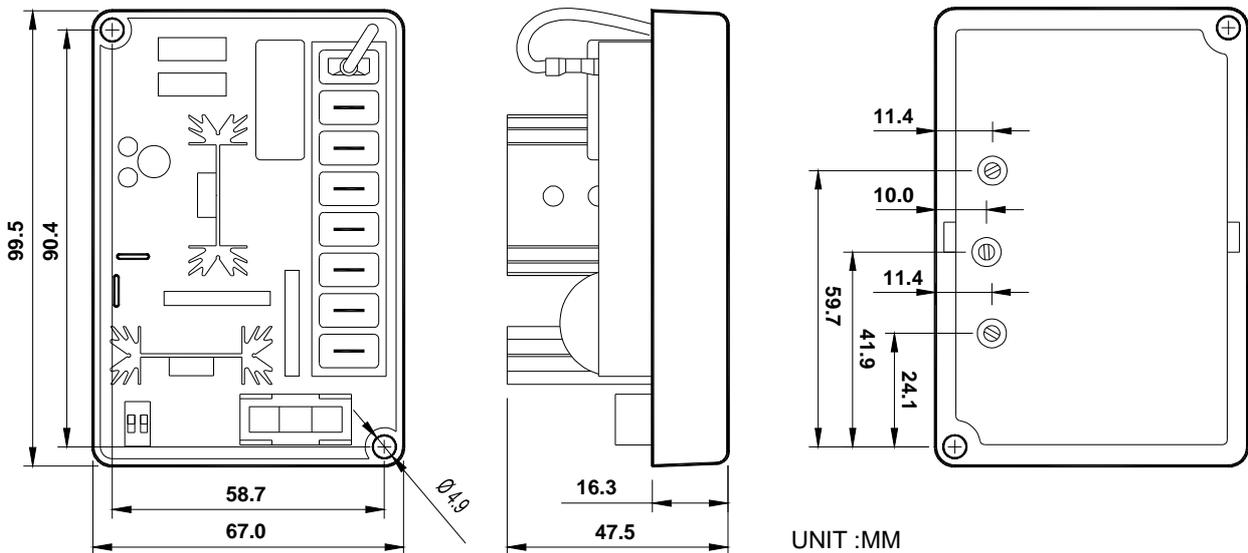

Figure 1 Outline and Drilling Diagram
FREQUENCY COMPENSATION (See Figure 1)
1. The frequency compensation characteristic of Figure 1 used to improve system load pickup performance by restraining voltage recovery until frequency has also started to recover.